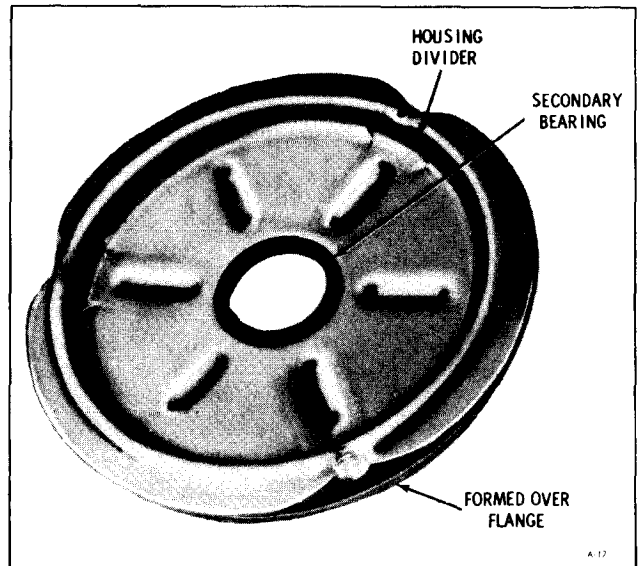

Figure 48—Installing Secondary Bearing
25. Hold the housing divider so that the formed lip (that holds the primary diaphragm) of the divider faces down. Place the secondary bearing in the I.D. of the divider so that the extended lip of the bearing faces up. (figure 48)